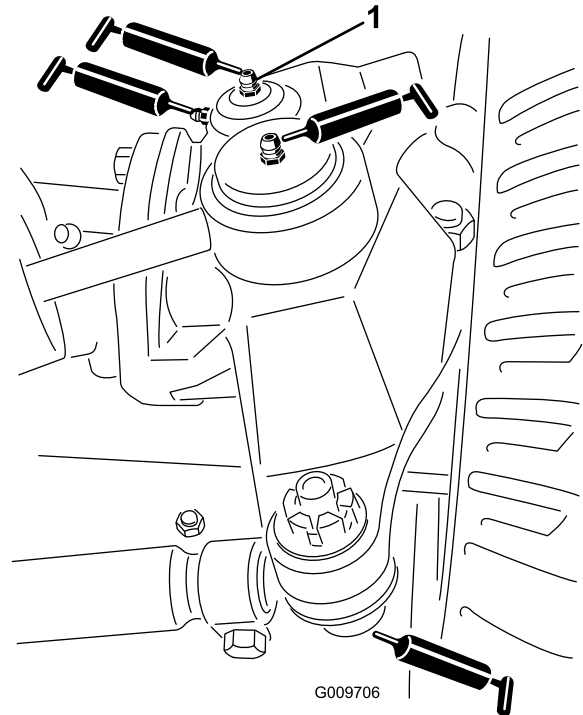

Figure 34
- Steering-cylinder ball joints (2) as shown in Figure 34
- Tie-rod ball joints (2) as shown in Figure 34
- Kingpin bushings (2) as shown in Figure 34